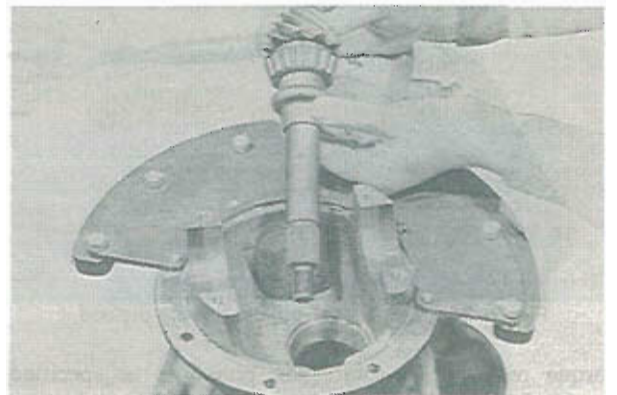

Fig. 9-32 Position of pinion assembly
2. Install the collapsible pinion bearing spacer and pinion bearing collar onto the pinion shaft, and position the pinion assembly in the carrier, as shown in Fig. 9-32.